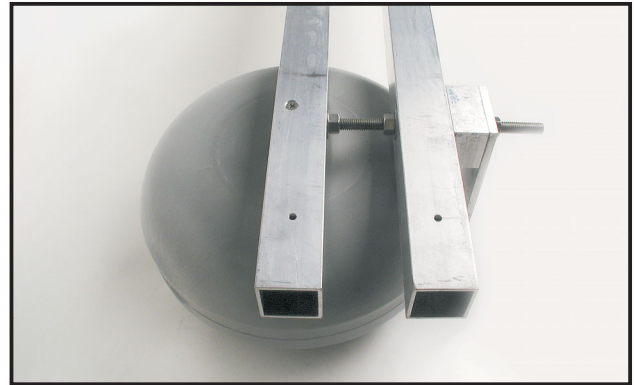

FIGURE 2. Inserting Stone Centre Pin.
- 3) Orient the jig so that the stone centre pins extend downward and insert the pins into the stone centre holes as shown in Fig. 2. Move one stone as necessary so that the jig is supported on the two stones.